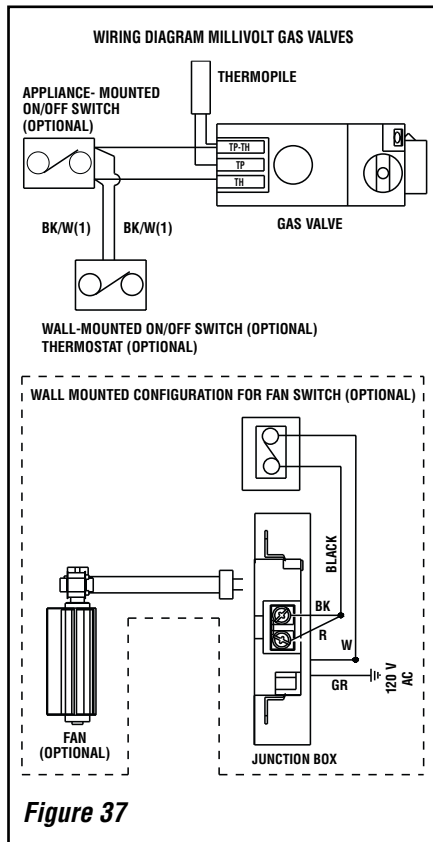

Figure 37
A. Millivolt Wiring (See Figure 37) –